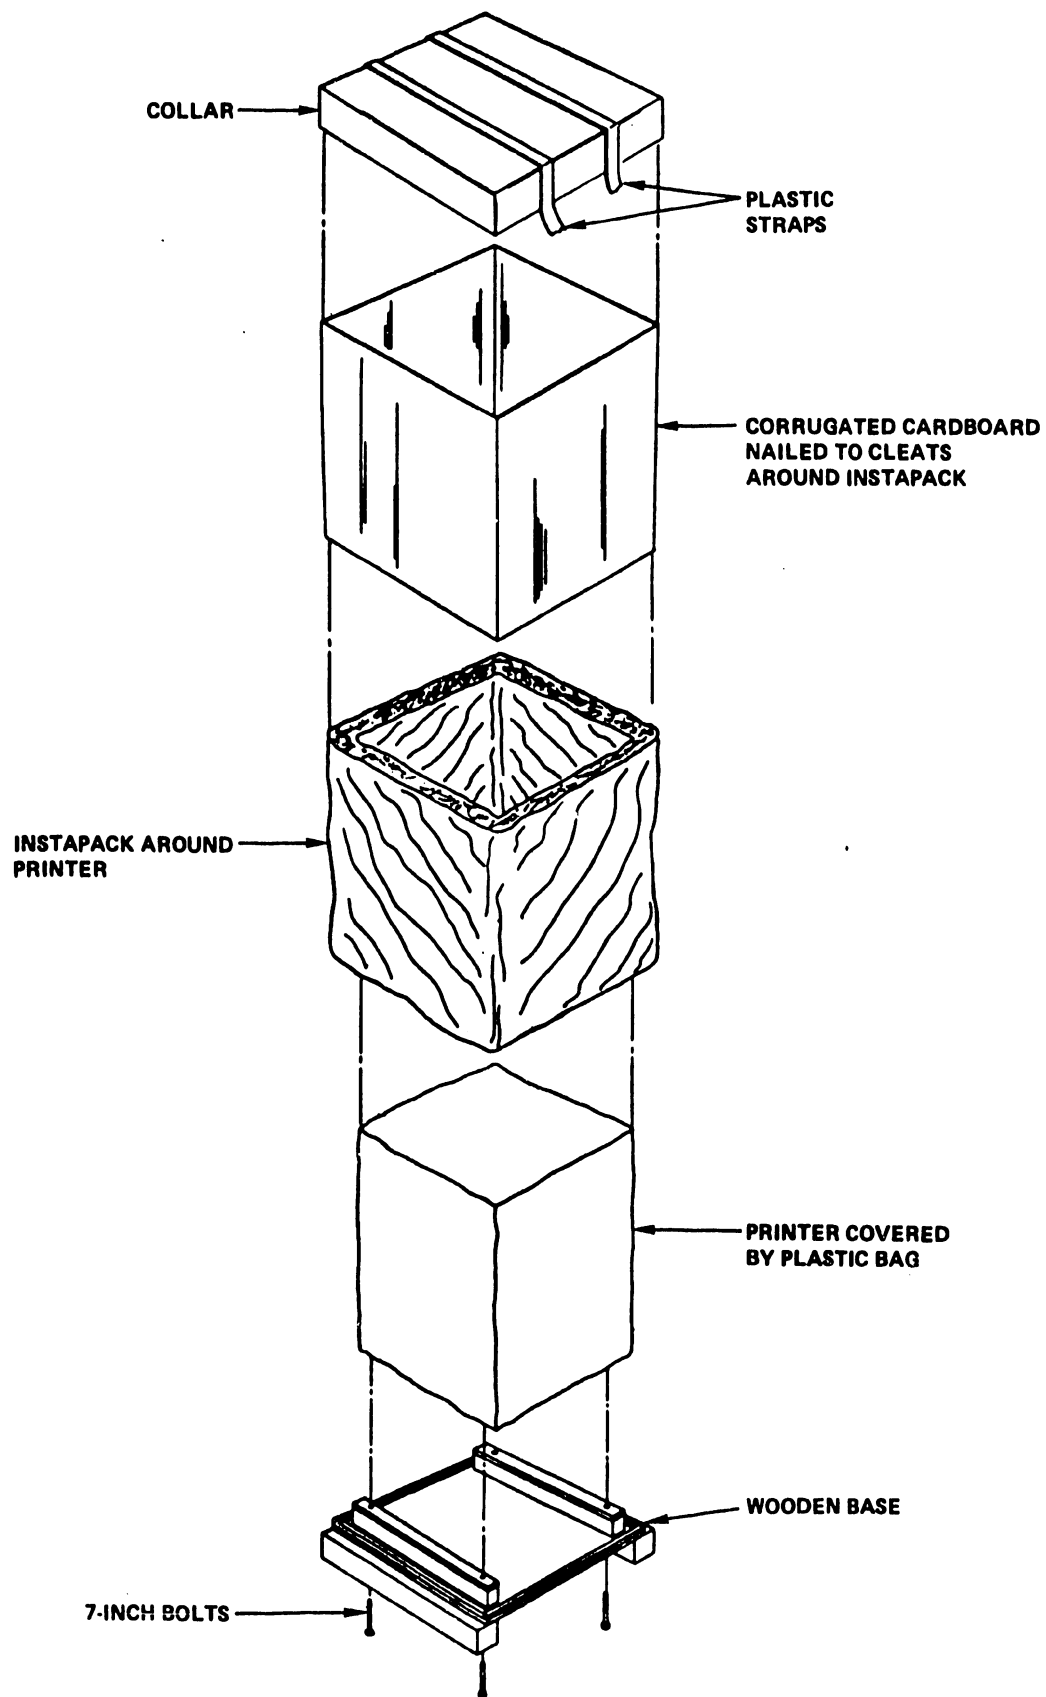

Figure 2-2. Unpacking the Printer
2.2.1 UNPACKING (SEE FIGURE 2-2)